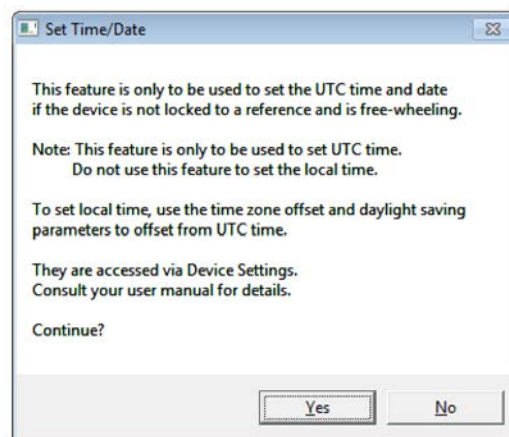

Figure C.65: Set Time/Date
- 10 A message will be shown (see Figure C.65).